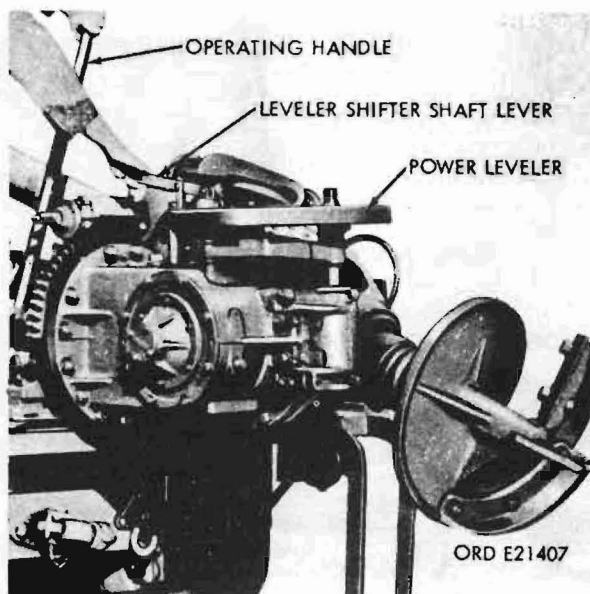

Figure 161. Operating the leveler shifter shaft lever and the drive control lever operating handle
8. Raise the vertical power leveler shifter-shaft lever (fig. 161) to engage power leveler.
Note. If the lever does not readily raise, apply momentary pressure on the drive control lever operating handle (fig. 161).